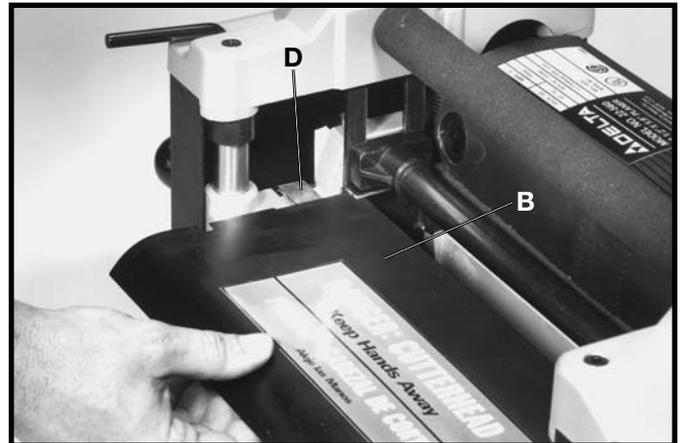
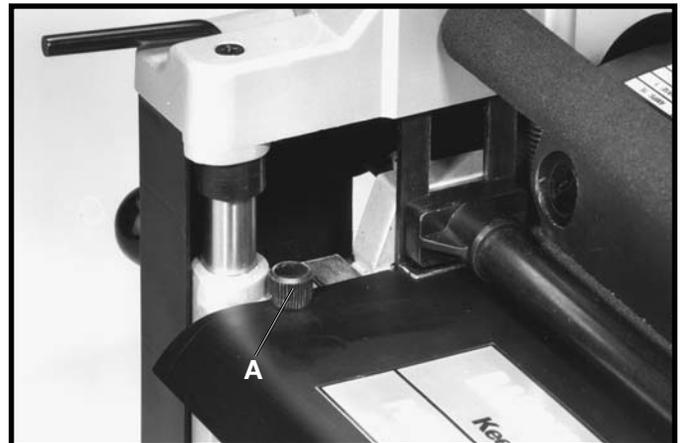

Fig. 34
Fig. 35
12. Replace cutterhead guard (B) Fig. 34, making sure cutterhead lock (D) is depressed and underneath guard as shown. Slide guard in as far as possible and replace two screws, one of which is shown at (A) Fig. 35. These screws were removed in **STEP 3**.